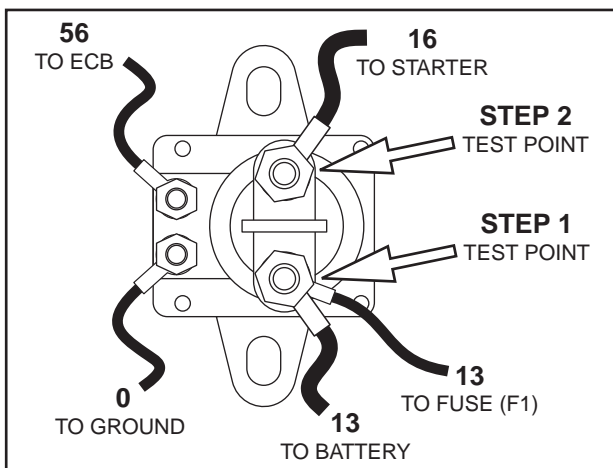

Figure 4. The Starter Contactor (Single Cylinder Units)
2. Now, connect the positive (+) meter test lead to the starter contactor stud to which the starter motor cable attaches (see Figure 4 or 5). Connect the common (-) test lead to frame ground.